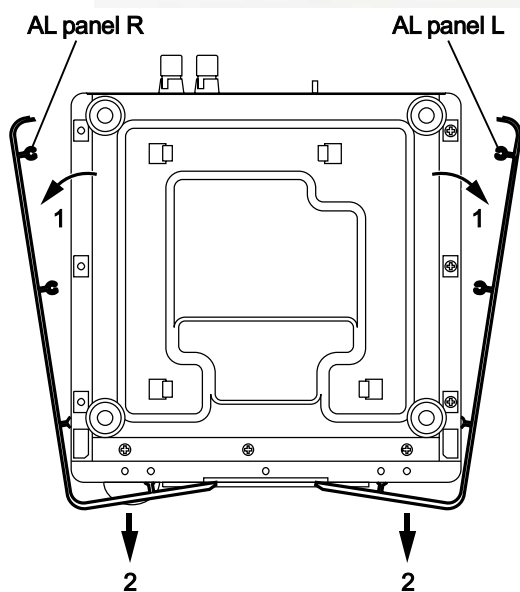

Fig.7
- (8) Remove the AL panel L and AL panel R in the direction of the arrow 2 while extending the back section of the AL panel L and AL panel R in the direction of the arrow 1. (See Fig.7.)